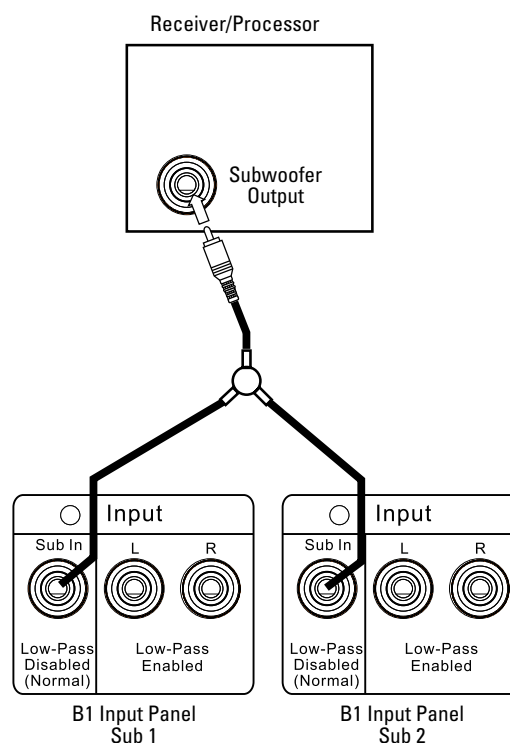

Figure 11: Connection to multiple B1 subwoofers
1. Connect an RCA patch cable from the Subwoofer or LFE output on the processor/receiver to the single input on the Y-adaptor, as shown in Figure 11.